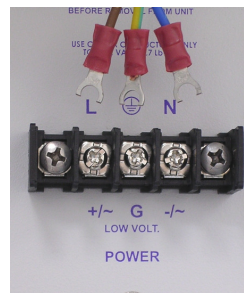
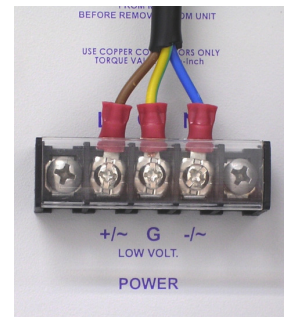

Fig. 6.4: Power cable & Terminal block
Fig. 6.5: Power Terminal Block Locked
- 3 – Connect the wires of the power cable (see Figure 6.4) to the Terminal Block (see Figure 6.5) paying attention to L=Line, G=Ground & N=Neutral.
- 4 – After connecting the power cables to corresponding sockets, tightly close the screws of the Terminal block – see Figure 6.5. Gently jerk the cable to check that it stays connected. Cover the Terminal Block with a plastic cover (if available).